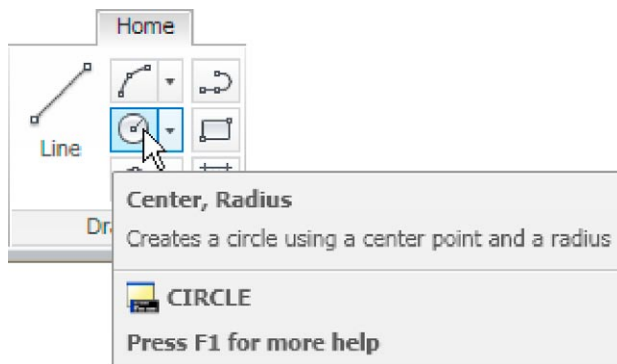

Fig. 2.11 The Circle tool from the Home/Draw panel
2. *Left-click* on the **Circle** tool icon in the **Home/Draw** panel (Fig. 2.11).